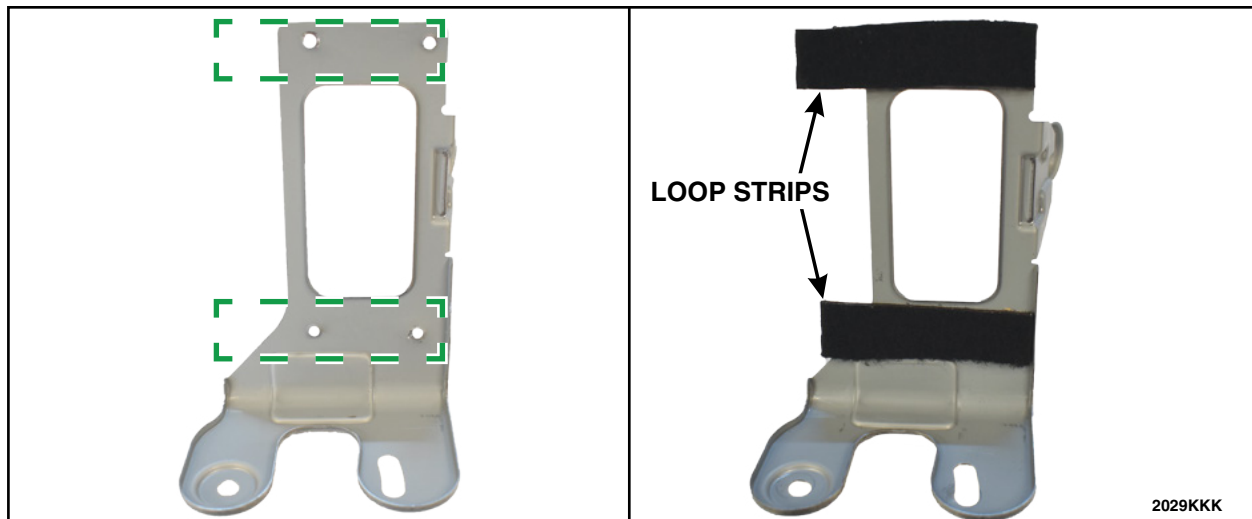

FIGURE 6
7. Clean the mounting bracket and apply loop strips. See Figure 6.